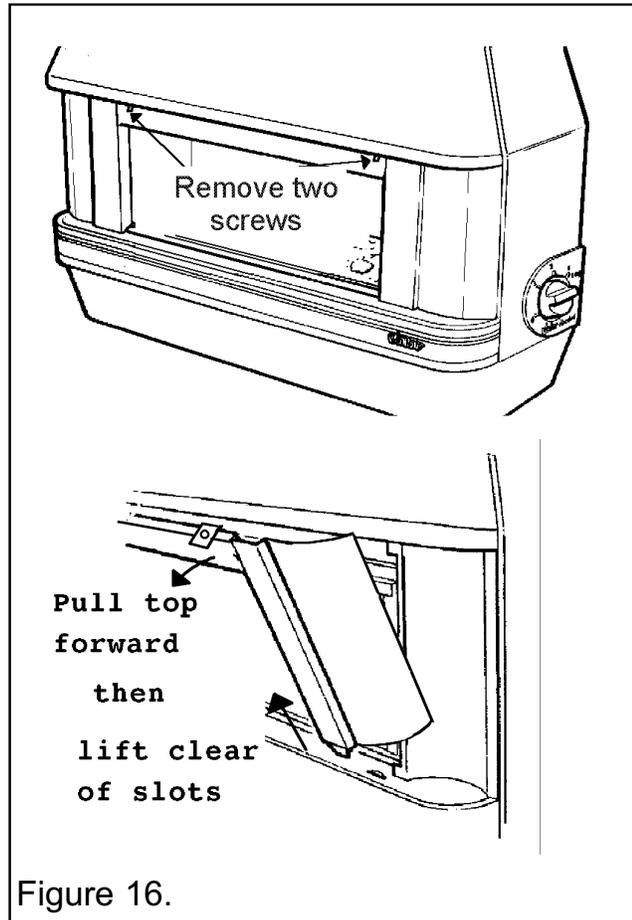

Figure 16.
1. Unscrew and remove the two screws that are under the fascia canopy (See figure 16).
2. Pull the top of the window surround forward (See figure 16).
3. Lift the window surround up to clear the slots in the fascia apron (See figure 16). Put the surround in a safe place.